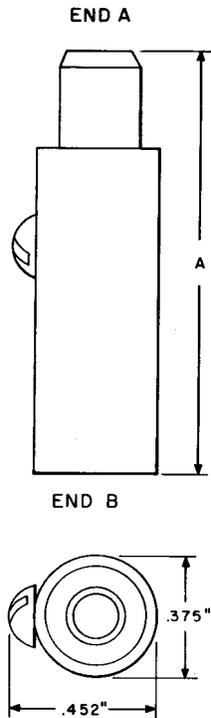

Fig. 17—219A, B, C, D, E, F, G, or H Connector
**2.10 219A Through H:** The 219-type connectors (Fig. 17) are supplied with a cable which is connected to the appropriate terminal and a resistor (not furnished) soldered from the wire terminal to the outer surface of the unused cable terminal. A sleeve is then positioned so its longer end will be over